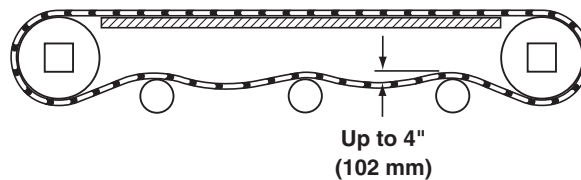

Figure 40
- Check belt sag by measuring from the top of the return (**Figure 40**). Belt sag should not exceed 4" (102 mm). Follow steps 7 – 9 in the "Belt Installation" section on page 13 to remove slack from the belt.